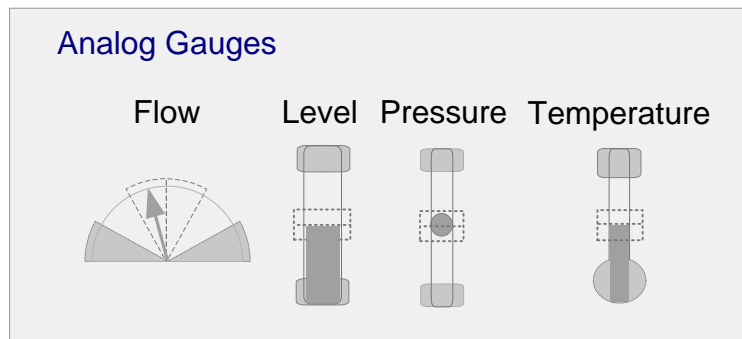

Figure 49: An illustration of the four different types of analog gauges.
For analog gauge objects, the visual features can show the process value (PV) relative to a set point, normal range, and alarm limits. See Figure 49: An illustration of the four different types of analog gauges. Figure 49 for the different analog gauges.